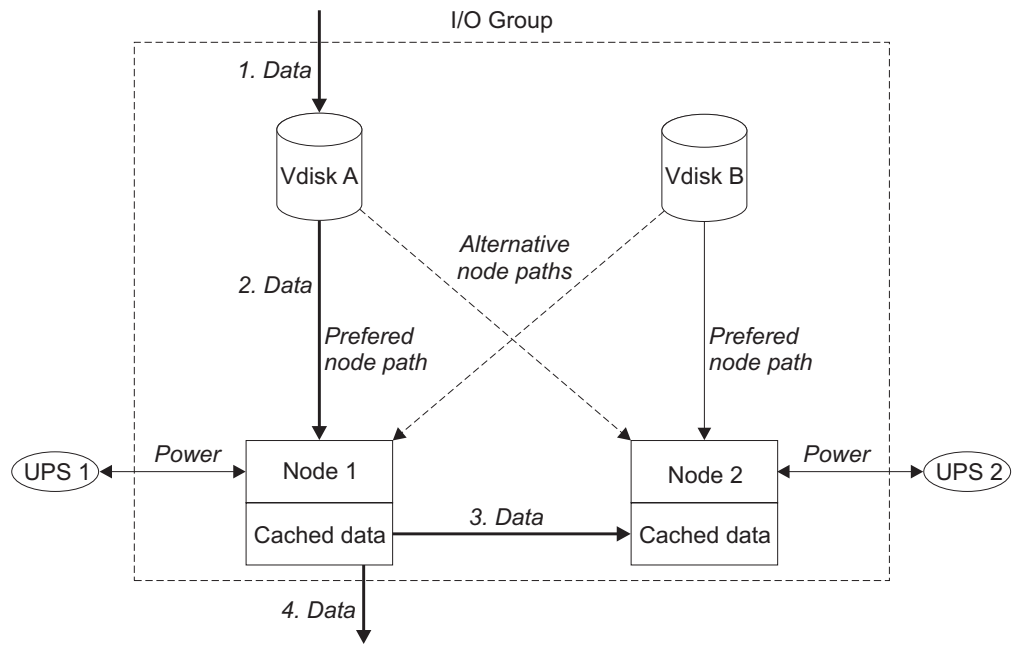

Figure 3. I/O group and UPS
Figure 3 on page 42 shows an example I/O group. A write operation from a host is shown (item 1), that is targeted for VDisk A. This write is targeted at the preferred node, Node 1 (item 2). The write is cached and a copy of the data is made in the partner node, Node 2's cache (item 3). The write is now complete so far as the host is concerned. At some time later the data is written, or de-staged, to storage (item 4). The figure also shows two UPS units (1 and 2) correctly configured so that each node is in a different power domain.